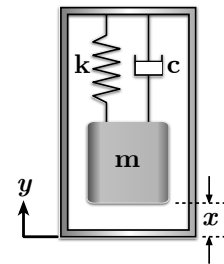

Figure 5: The Proposed Sensor
A coworker suggests attaching the system in Figure 5 to the main system mass. He claims that this proposed sensor can measure acceleration.
- c. For the proposed sensor in Figure 5, write the transfer function between the sensor motion, $y(t)$, and the measurement, $x(t)$.